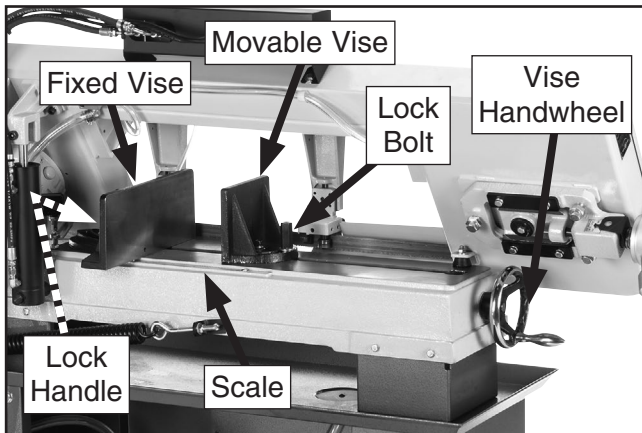

Figure 34. Location of vise components.
The movable vise (see **Figure 34**) has a quick release feature that allows jaw width to be quickly adjusted when changing from one sized material to another.
The fixed vise (see **Figure 34**) can be adjusted to cut any angle, from a straight 90-degree cut-off to a 45-degree angle, by loosening the front lock bolt and rear vise lock handle. Positive stops at 90° and 45° allow you to quickly return the fixed jaw to either angle. Angles between 90° and 45° can be read using the scale on the side of the vise table. Use a combination square or bevel protractor if higher precision is required when finding these angles.
1. Turn vise handwheel (see **Figure 34**) counterclockwise to relieve any pressure on movable vise jaw.